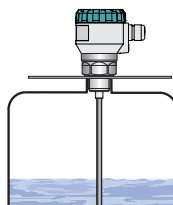

Fig. 7: Level meter installation in the non-metal tank
- To install the level meter in a non-metallic water tank, it is necessary to insert a metal plate with a diameter greater than 200 mm in the area of the process connection, see fig. 7. The metal plate must be in contact with the thread stop of the level meter.